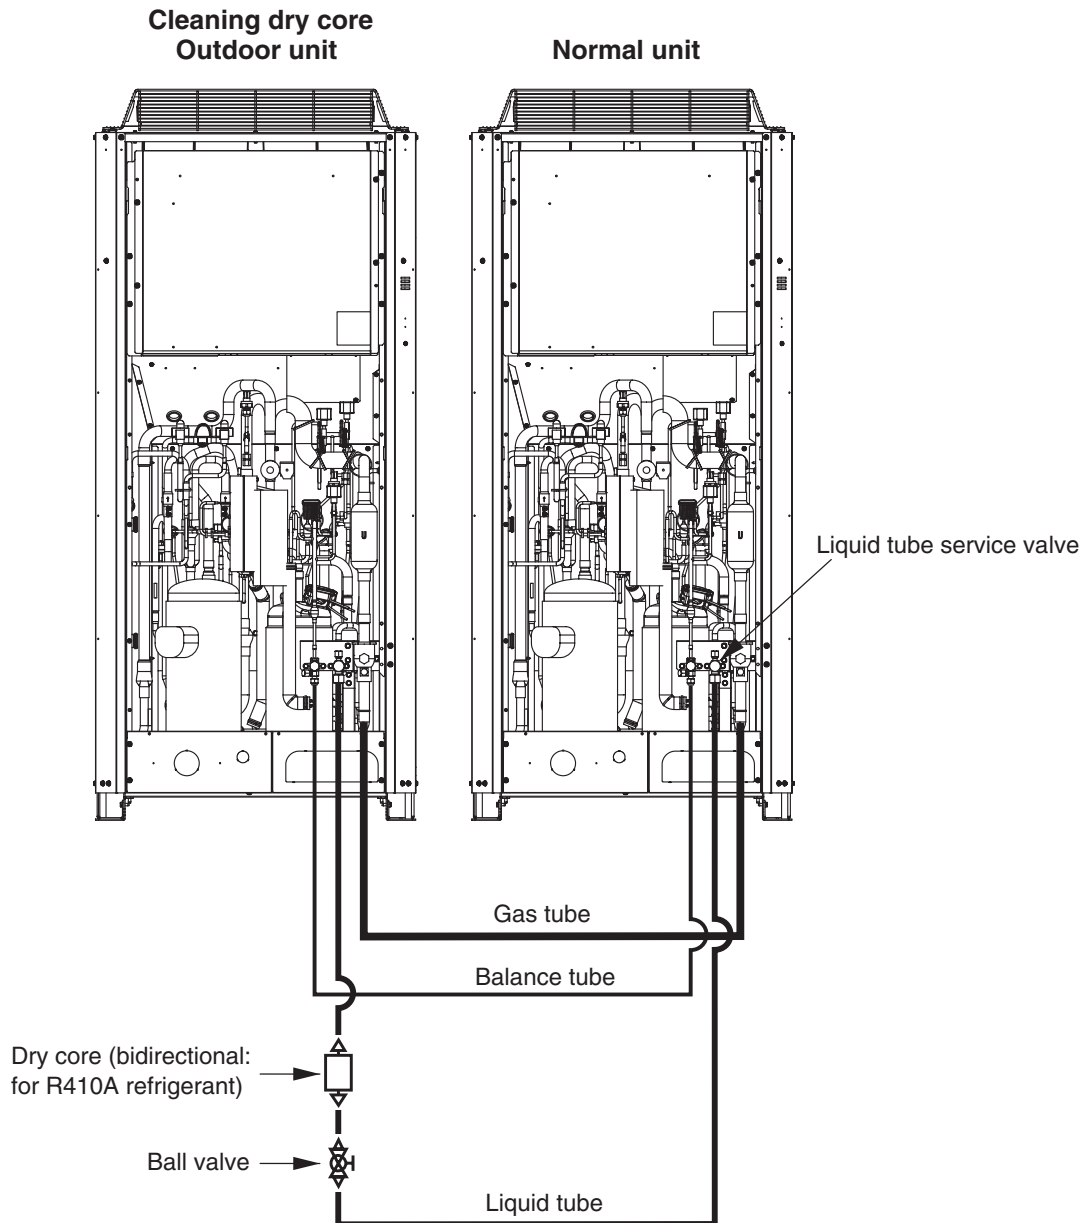

Fig. 15
- (4) Connect a refrigerant recovery device to the liquid tube service port (Schrader-type valve) of all outdoor units where dry cores will be attached, then recover the refrigerant from the tubing. Be sure that no air enters the tubing at this time.
- (5) As shown in Fig. 15, disconnect the tube that runs from the liquid tube valve to the ball valve on all outdoor units where dry cores will be attached. Then attach the dry cores.
- (6) At all outdoor units where dry cores are attached, pressurize with 3.8 MPa of nitrogen from the liquid tube service port and check for leaks.
- (7) After evacuating all nitrogen gas from the tubing, apply vacuum from the liquid tube service port to all outdoor units where dry cores are attached until the pressure is  $-101\text{kPa}$  ( $-755\text{ mm Hg}$ , 5 Torr) or less.
- (8) Fully open the liquid tube valve and ball valve on all outdoor units where dry cores are attached.
- (9) Operate all outdoor units for approximately 3 hours (in either Heating or Cooling mode).
- (10) Follow the above procedure, and replace all dry cores with new dry cores.
- (11) Operate all outdoor units for approximately 20 minutes (in either Heating or Cooling mode).
- (12) Follow the instructions in “2. Discharging Compressor Oil” and drain a small amount of the oil from the oil separators of all outdoor units where dry cores are attached. Check the color phase, odor, and other characteristics.
- (13) If the results show that dry core cleaning is still necessary (for example, a color phase of 4.0 or higher)\*, return to Step 11 and repeat until the results are normal (including a color phase of 3.5 or less)\*.
**(B) If a ball valve is not installed on the outdoor unit**
- (1) Refer to "4-2-3. Refrigerant recovery procedures (2) : Indoor unit with no ball valve equipped." Perform pump down of the refrigerant from all indoor units and inter-unit tubing to the outdoor unit side.
- (2) Cut the liquid (narrow) tube at all outdoor units where dry cores will be attached, then attach the dry cores and ball valves as shown in Fig. 15.
- (3) For the next steps, refer to (6) – (17) in **(A)** on the previous page.